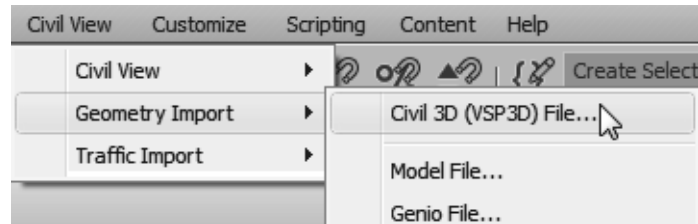

Figure 3–5
2. In the menu bar, select **Civil View>Geometry Import>Civil 3D (VSP 3D) File**, as shown in Figure 3–5.